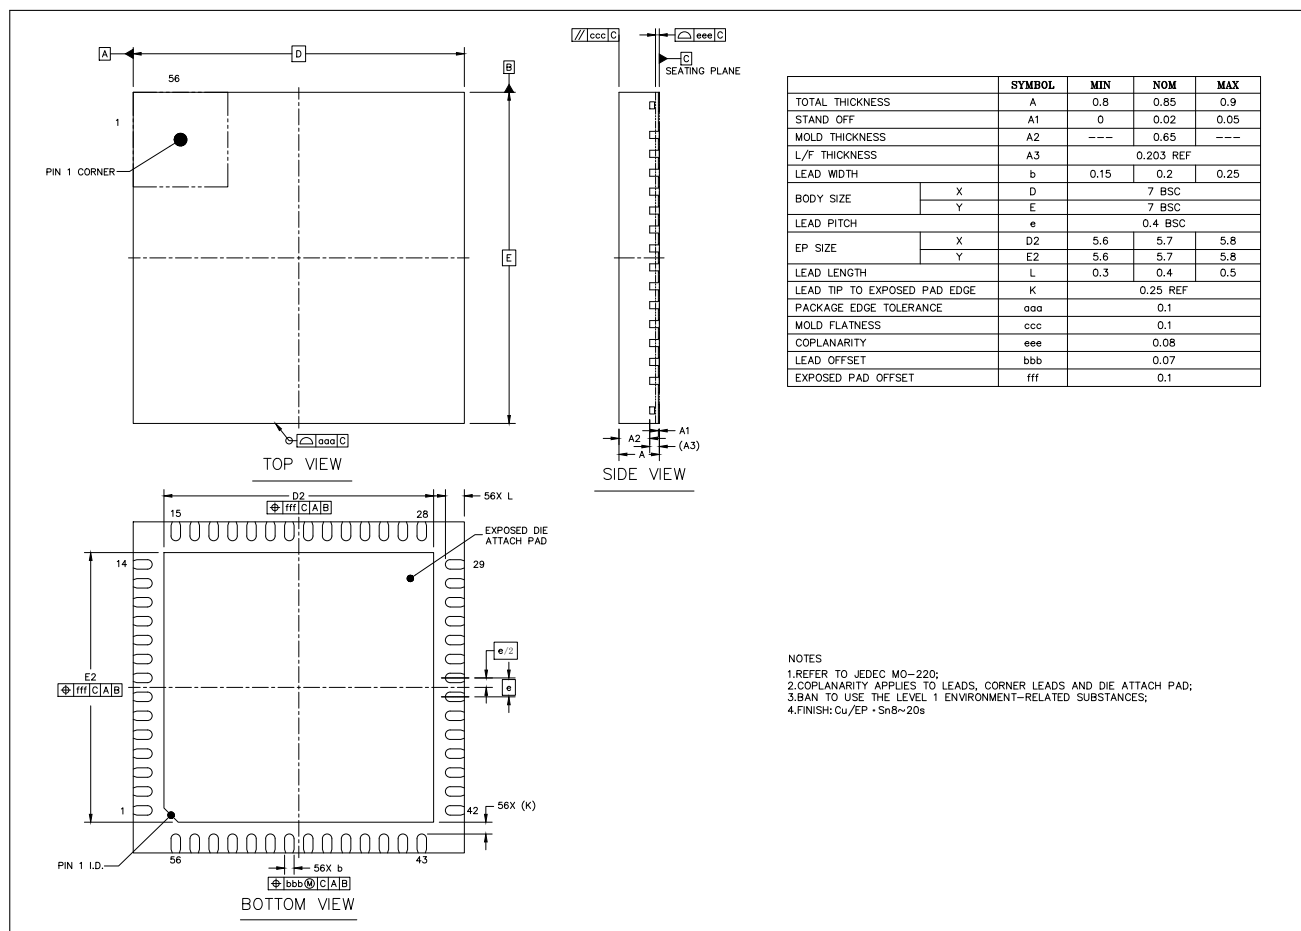

Figure 5-2. QFNWB (7x7 mm) Package for ESP32-S3FH4R2
- All ESP32-S3 chip variants have identical land pattern except ESP32-S3FH4R2 has a bigger EPAD. The source file \(dxf\) may be adopted for ESP32-S3FH4R2 by altering the size of the EPAD (see dimensions D2 and E2 in Figure 5-2).